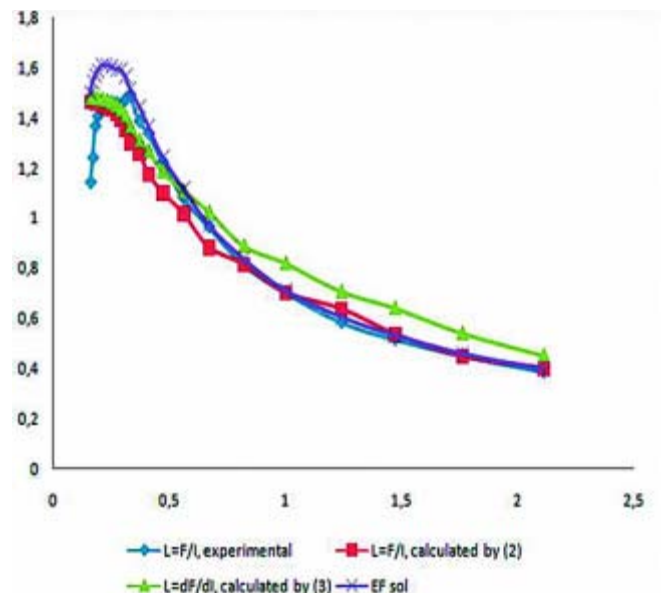

Figure 7: Calculated and estimated inductances
The figure 7 shows the comparison between calculated inductance using experimental measurements, calculated inductance using expressions (2) and (3) and by using 2D FE calculation.